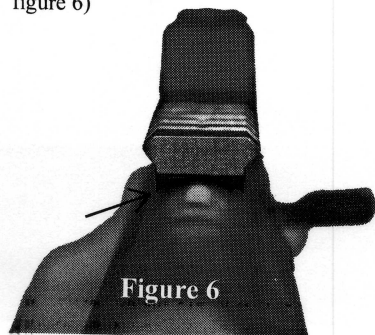

Figure 6
- 5.7 Take a look at the end of the rail where it straddles the dust cover, by eye, you want the center of the end of the rail over the center of the dust cover. This is where the final tweaking left to right of the base is performed. If it is centered to your liking, remove the dropped rail, set aside and skip 5.8 and go to 5.9 (see figure 6)